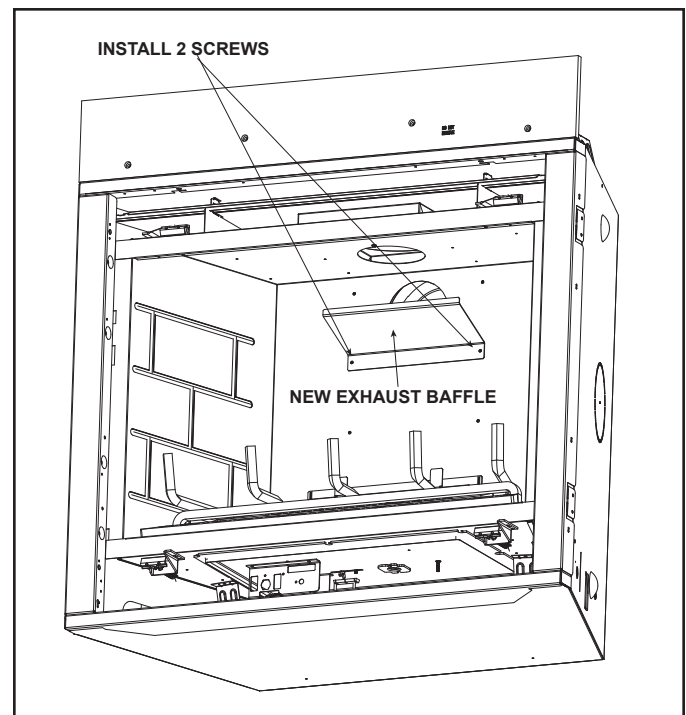

Figure 8. Install New Exhaust Baffle (6000C ONLY)
8. Install new exhaust baffle by reinstalling the two screws as shown in Figure 8.